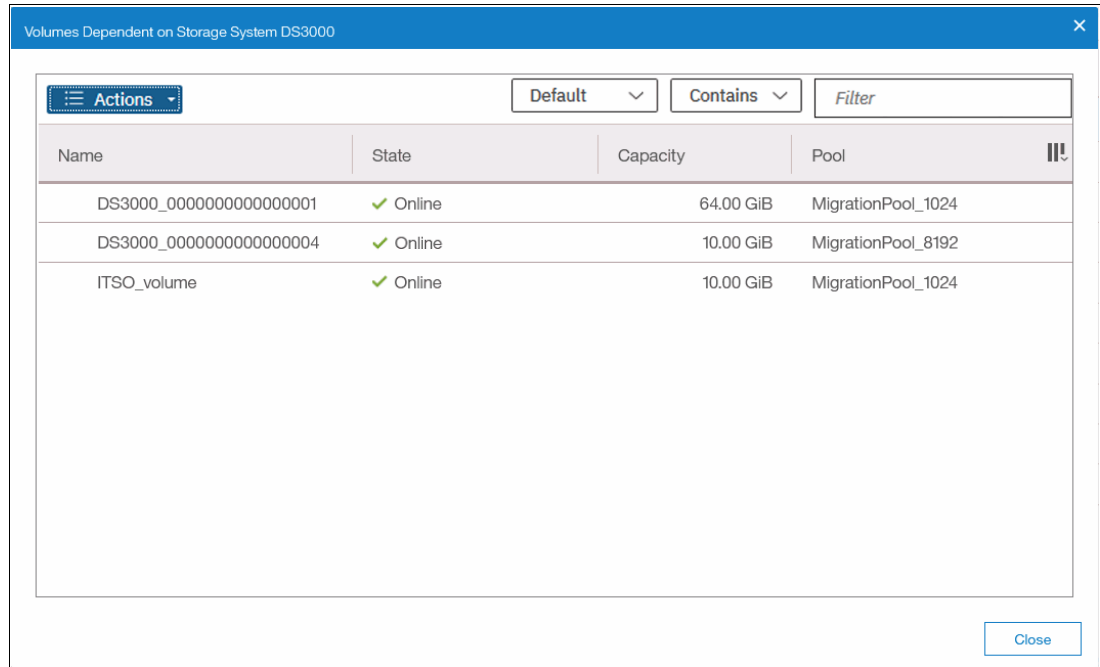

Figure 11-17 Volumes that depend on the external storage
- Click **Show Dependent Volumes** to display the logical volumes that depend on the status of selected external storage system, as shown in Figure 11-17. If a controller goes offline, the dependent volumes also go offline. Before you take a controller offline for maintenance, you can use the command to ensure that you do not lose access to any volumes.